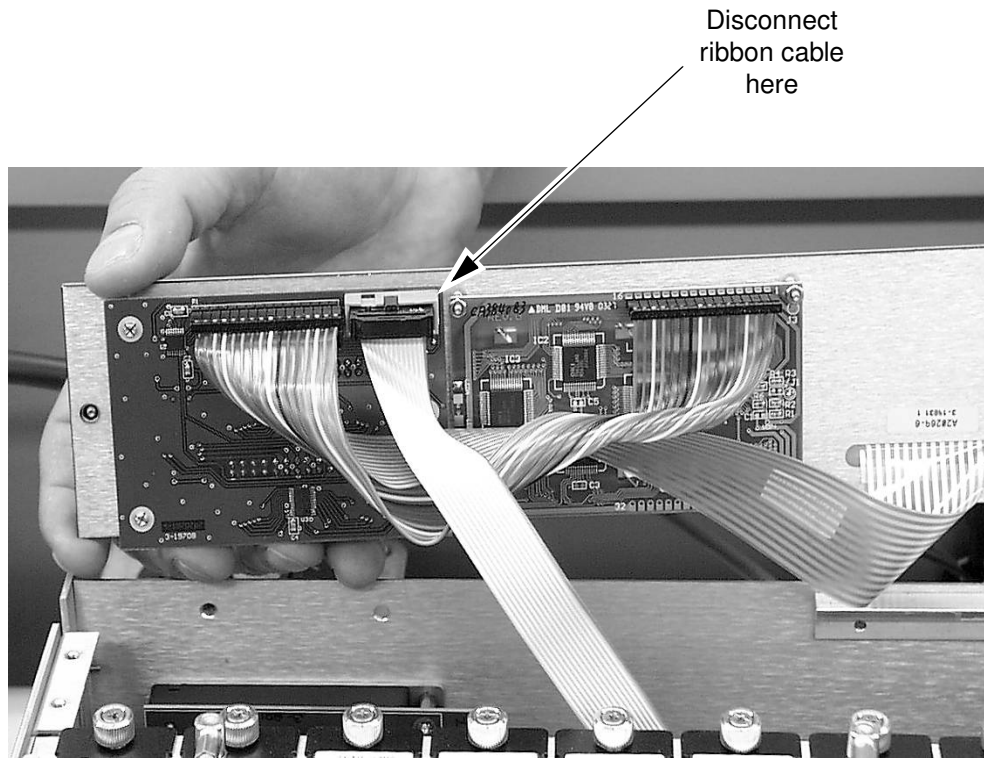

Figure 13: Disconnecting the display/user interface assembly from the card cage.
- 4) Remove the ribbon cable that connects the display/user interface assembly to the card cage, see **Figure 13**.